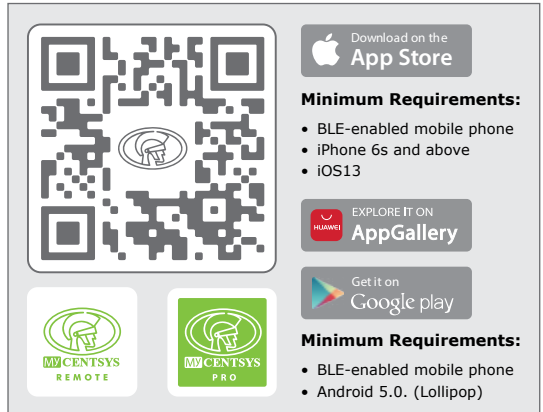

FIGURE 90
1. Scan the QR Code in Figure 90.